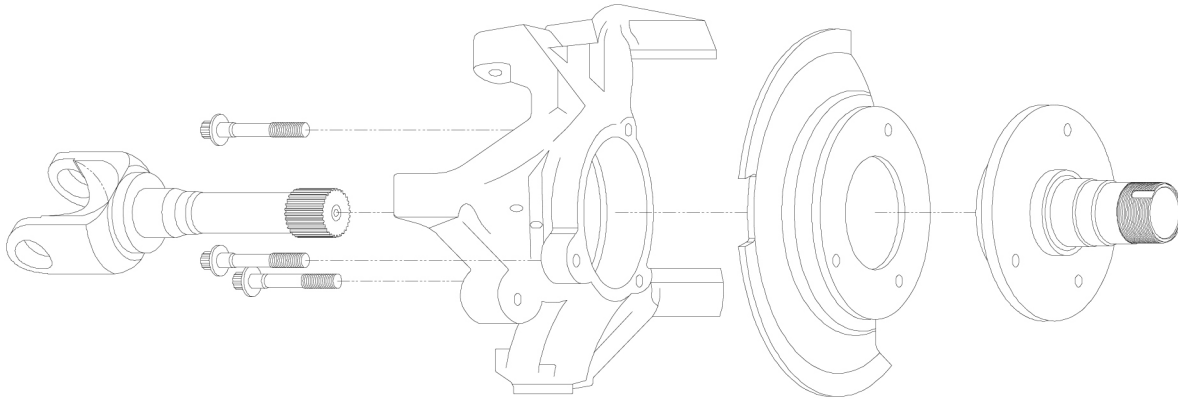

Figure 4. Exploded knuckle
7. Remove 3 bolts retaining the original hub (using 13 mm 12 pt socket). Take care not to damage the bolts as they will be reused in the kit. Do not disassemble the bearing assembly from axle shaft. See Figure 4. (For location reference only)
9. Remove axle shafts, brake shield, and unit bearing. This may take some force depending on the amount of rust, salt, or corrosion present. Take caution when removing the shaft assembly not to damage the inner shaft seals. See Figure 4. (For location reference only)
18. Place spindle over outer axle shaft and bolt on to steering knuckle. Torque 3 bolts to 75 ft. lbs. See Figure 4.